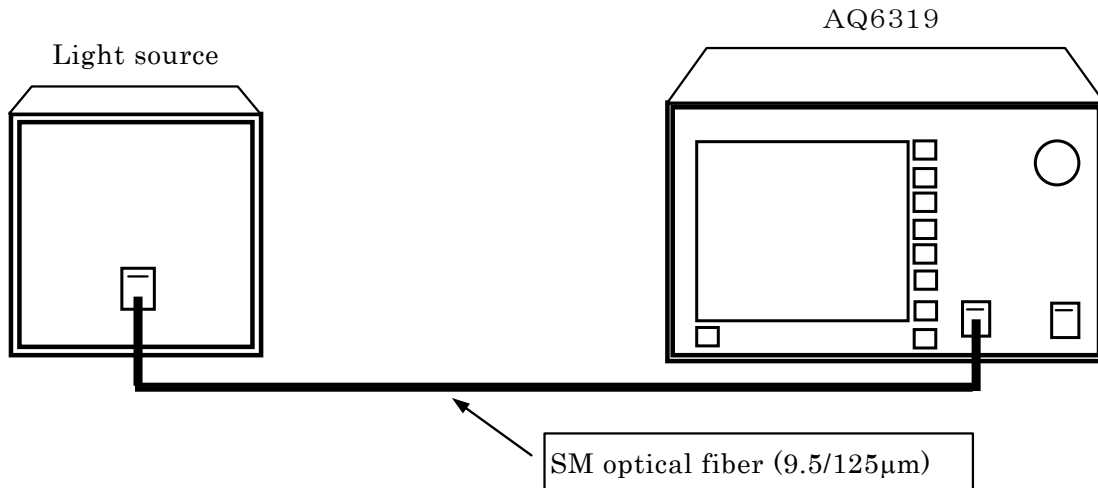

Fig. 4-7 Measurement System During Wavelength Calibration (using External Reference Light Source)
- ② Use an SM optical fiber to connect the output connector of the external light source to the unit's INPUT connector. (☛ See subsection 4.3.2 Connecting Optical Fibers and Fig 4-7 Measurement System During Wavelength Calibration (using External Light Source))